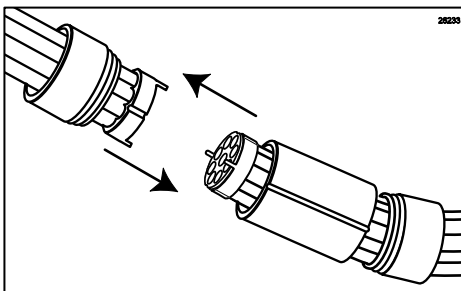

Figure 119
3. Align the coupler pins of the two syrup lines and connect the assemblies. (See Figure 119.)